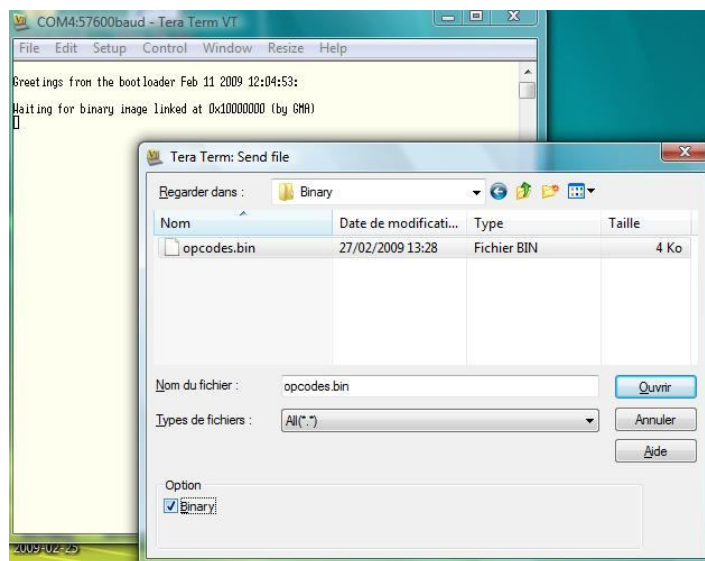

Figure 12 : Sending binary files using Tera Term
7. In Menu bar, click on the File menu and select Send File..., select your binary file (.bin) located in the \$(HOME)/lab3-1/OS/Binary/ directory and check the box 'Binary' (Figure 12).